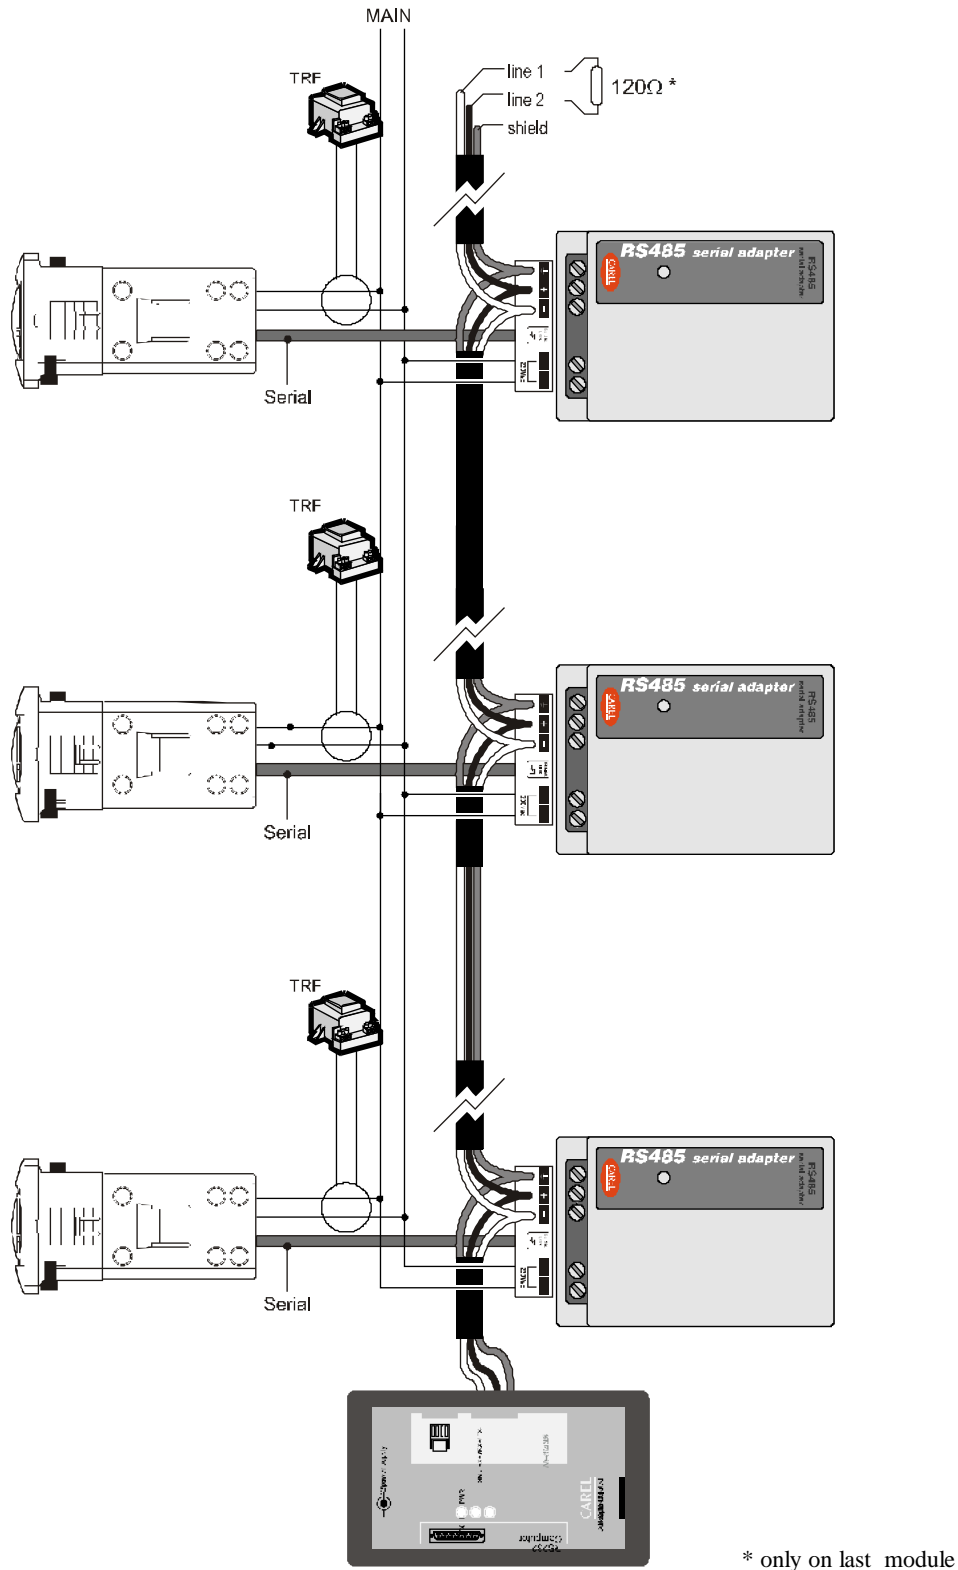

Fig. 3.4.2.1
**WARNING:** the diagrams show the serial connection including the RS485 serial interface adapter (see options) which is external to the instrument and must be powered separately. Versions with 115 and 230 Vac power supply are also available for the serial adapter. For reasons of EMI compatibility, a 3VA transformer (TRF in fig. 3.4.2.1) (see options) is required for each PJ32 instrument with 12Vac power supply.